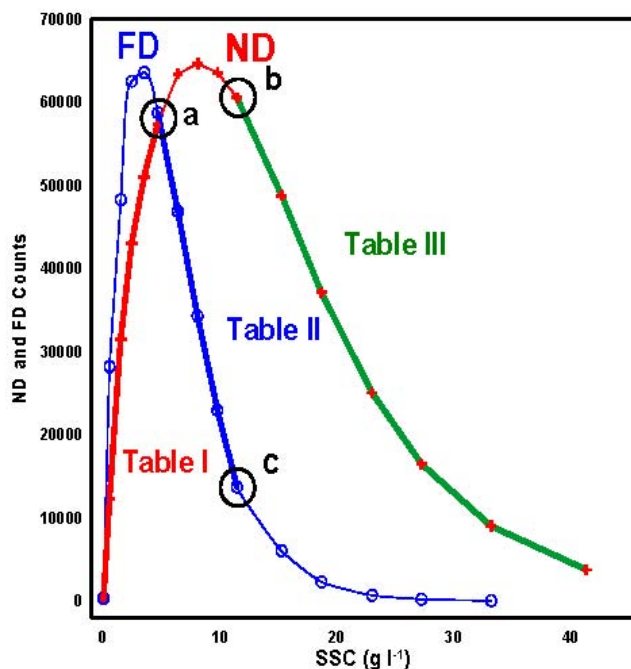

FIGURE 7-2. Lookup tables and table limits (a, b, and c)
The OBS-5+ uses response curves from the near and far detectors to create three lookup tables like those shown on FIGURE 4-3 and FIGURE 7-2. The objective of sediment calibration is to create lookup tables from the sediment you will monitor. The OBS-5+ can store lookup tables for as many as 14 sediments. The fifteenth table is reserved for auto-saved archives.
During a calibration, the first table, highlighted in red, is created from the rising limb of the near detector response between zero counts and point “a” (FIGURE 7-2). The second table, bold blue curve, is used for mid-range SSC values. It is derived from the descending limb of the far detector curve between points “a” and “c”. High SSC values are estimated from a third lookup table, indicated by the bold green line and point “b”, and are derived
- 14) To compute the lookup tables, click the **Calculate Fit** button and supply the requested information. Referring to FIGURE 7-2, pick point 'a' by counting the number of data points on the ND curve from the origin (0, 0) to the first point beyond where the ND and FD curves cross, 6 in FIGURE 7-2. Select 'b' at the first point on the falling limb beyond the ND peak where it becomes linear, 10 on FIGURE 7-2. Point 'c' is the first point in
the FD curve where it starts decay exponentially, also 10 on FIGURE 7-2